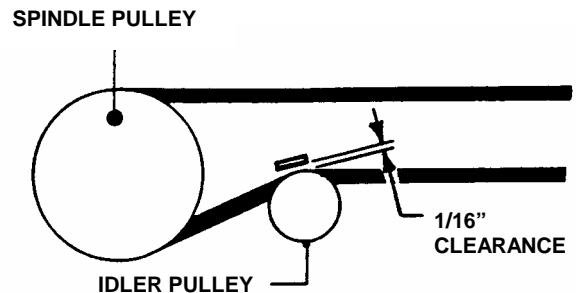

FIGURE 4.32
7. Adjust idler pulley belt guide if necessary to obtain 1/16" clearance between belt and belt guide. See Figure 4.32.